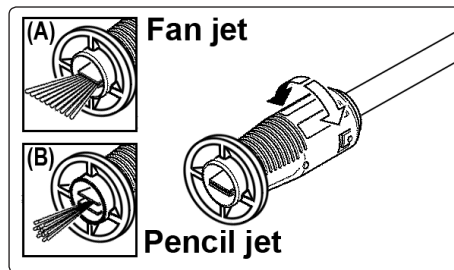

fig.6
- 4.3.2. SPRAY PATTERN. To change the spray pattern from a pencil jet to a fan jet rotate the nozzle as shown in fig.6.
6.2. NOZZLE SPRAY ADJUSTING (fig 6).